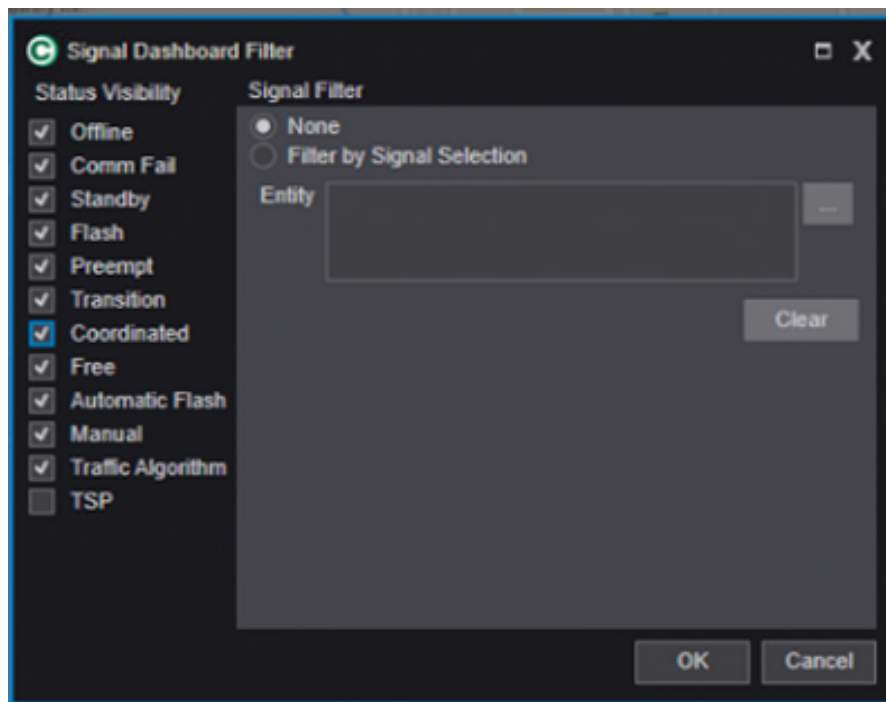

Figure 37: The Signal Dashboard filter window.
The Dashboard also supports filters. To adjust what the dashboard displays, click on the **Filter** icon in the top right corner of the Dashboard window, seen in Figure 37. This brings up the Signal Dashboard Filter window.
- a) Click the **Filter by Signal Selection** option, as seen on the right side of Figure 37 under the Signal Filter section. This will enable the ... button next to the Entity field.